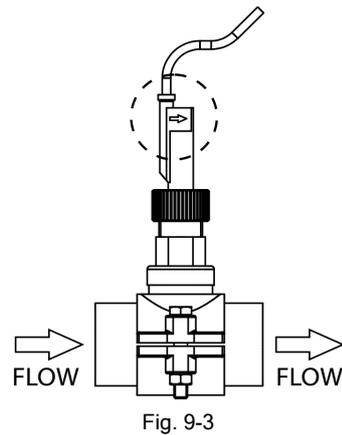

Fig. 9-3
3. There is an arrow on the head of the flow detector. Make sure that this arrow is parallel to the pipe shaft and pointing in the direction that the water flows (Fig. 9-3).